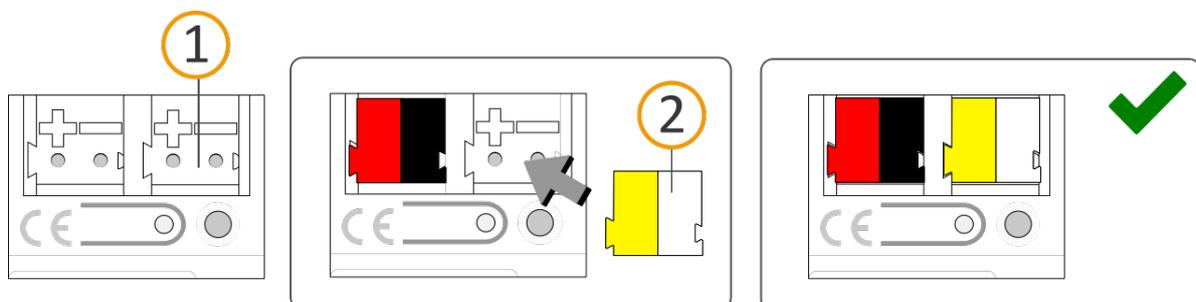

Figure 17: Connect the power supply
3. Connect the external power supply to the power supply terminal (see figure 17, item 1) by means of the supplied power connection terminal (see figure 17, item 2). Polarity: left/yellow: "+", right/white: "-".
- a. Attach the power connection terminal (see figure 17, item 2).